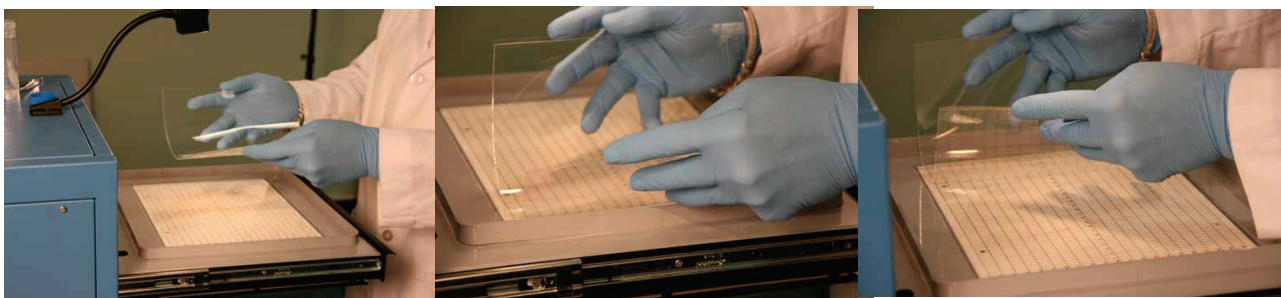

Fig. 4: Placing the gel on the cooling plate.
6. Grip the gel (surface up) at the two lateral edges at the protruding film, bend into a "U-shape" and slide the film-backing left and right on the cooling plate to distribute the cool contact fluid evenly (Fig. 4).